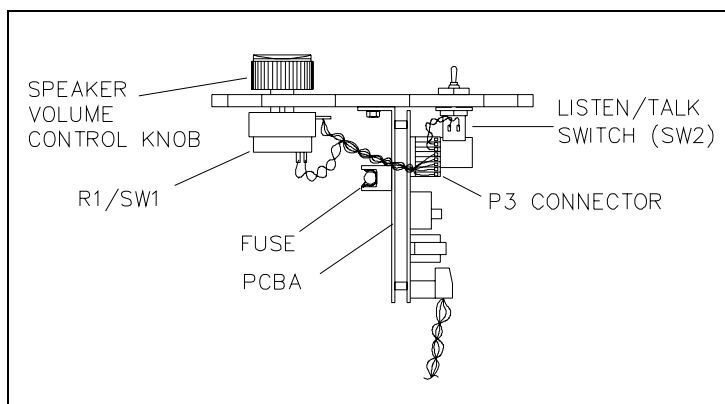

Figure 2. Outline Diagram
3. Reinstall the speaker volume/on-off switch (R1/SW1) through the heatsink plate and through the front cover. Ensure that the associated anti-rotation pin is properly inserted into the locking notch and the attached wires are positioned towards the fuse holder location. Refer to Figure 2.
9. Reinstall the fuseholder to the mounting bracket with the screw previously removed. Refer to Figure 2.